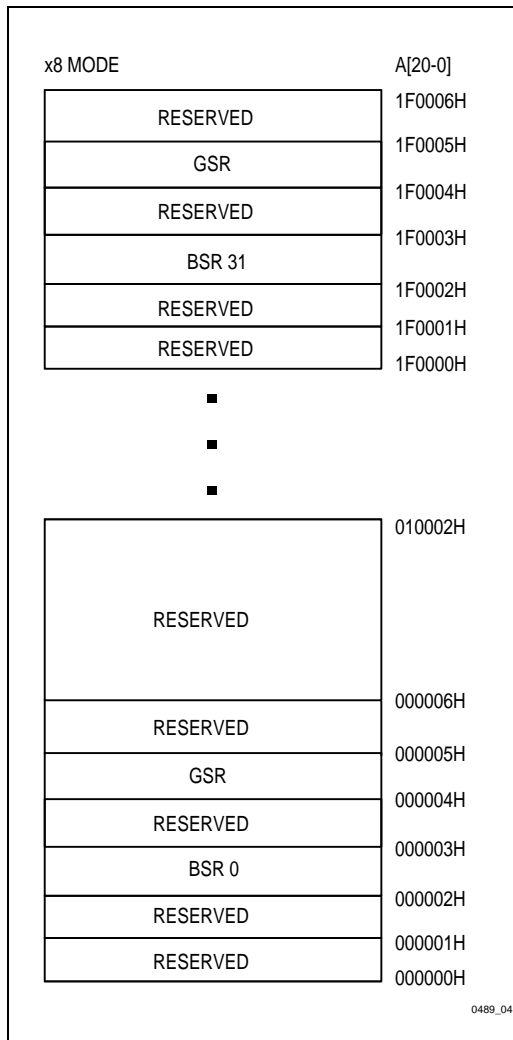

Figure 5. Extended Status Register Memory Map (Byte-Wide Mode)
1. RA can be the GSR address or any BSR address. See Figures 5 and 6 for Extended Status Register Memory Maps.